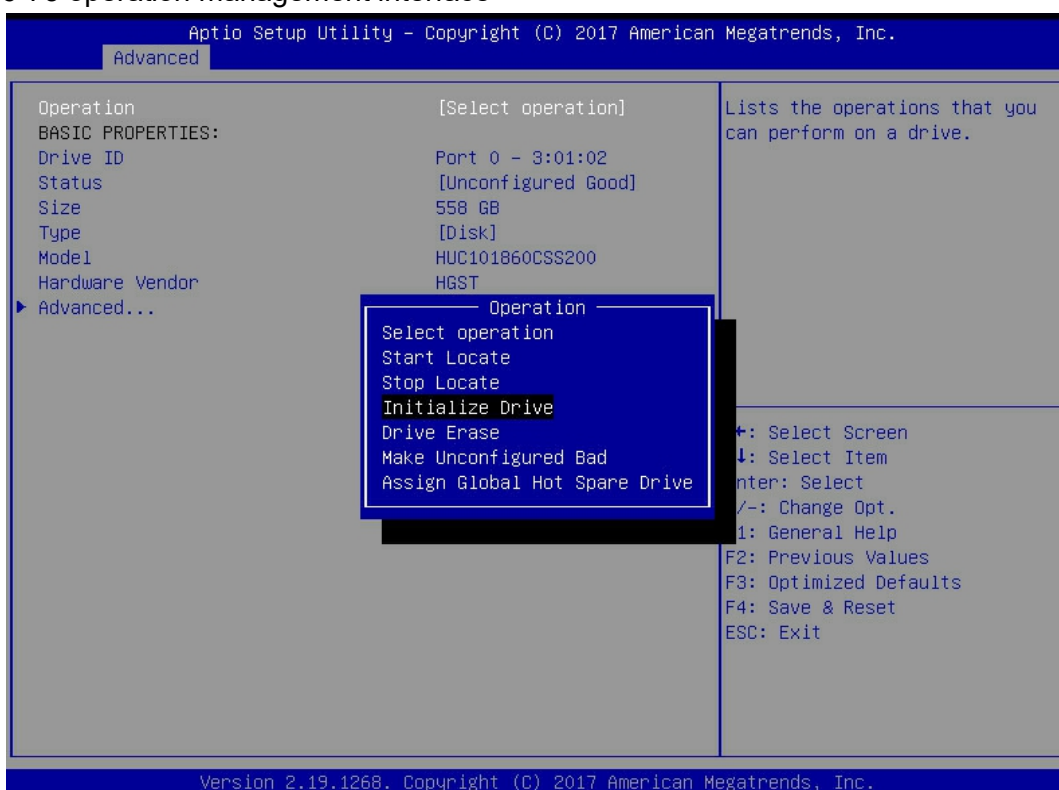

Figure 6-73
- c) Enter the interface shown in figure 6-73, select operation, press enter, and then select initialize drive in the pop-up dialog box, and press enter.
✧ Figure 6-73 operation management interface